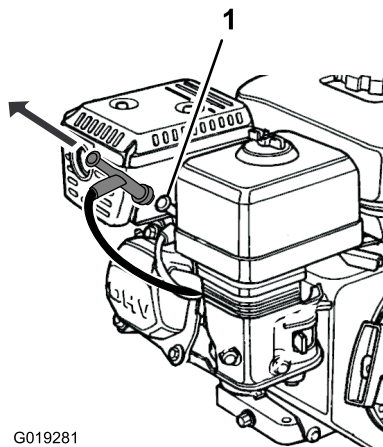

Figure 36
6. Disable the engine; refer to Figure 36.
Pull the spark-plug wire off the terminal of the spark plug (Figure 36).